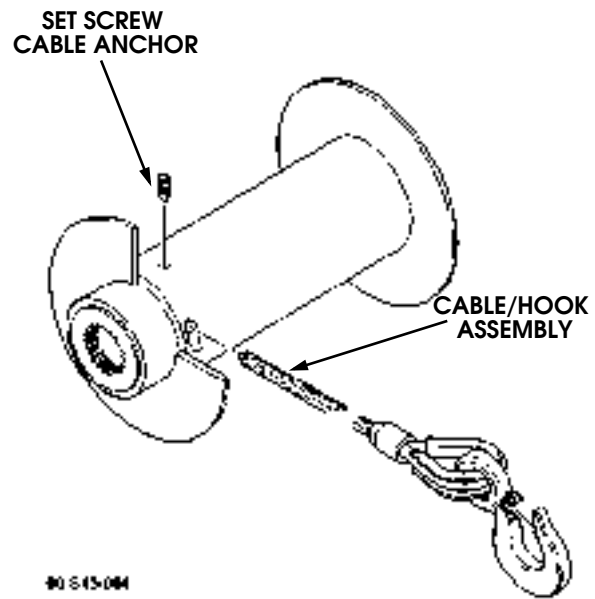

Figure 9-187: Winch Cable
- Remove set screw and winch cable/hook assembly from drum assembly (Figure 9-187).